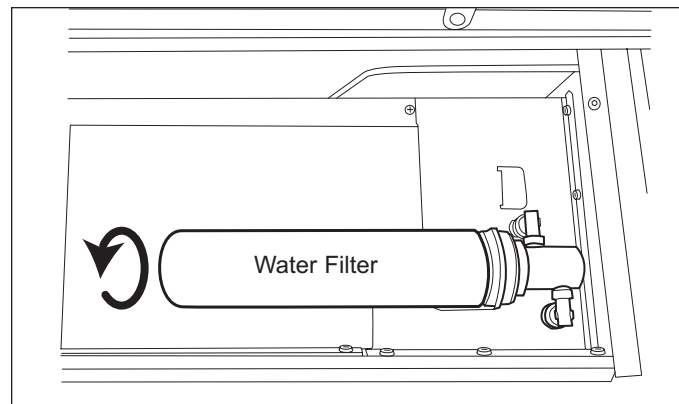

Figure 7-50. Water Filter Removal
2. Rotate filter counterclockwise to remove it (See Figure 7-50); clockwise to install it.